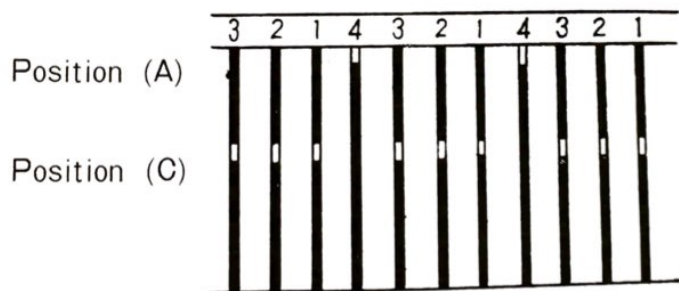

Fig. 41
Before commencing to knit the pattern you should transfer every 4th stitch (opposite No. 4 on the N.S. G.S.) onto each adjacent needle with the Transfer Tool, and the empty needles should be pushed back into Position (A) as shown in Fig. 41